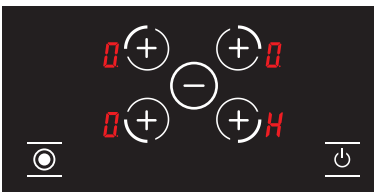

Figure 28
- The device switches to standby mode after these procedures. However, the symbol **H** will be displayed if the hob is hot, even if the appliance is switched to standby mode. (See Fig. 28.)